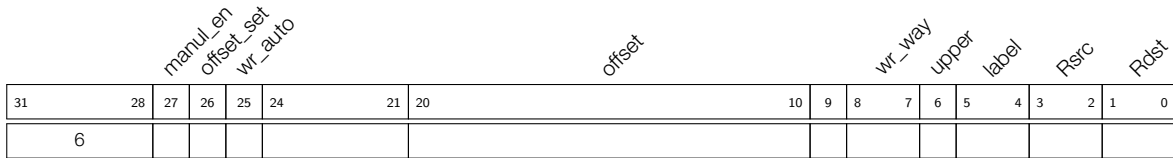

Figure 1-10. Instruction Type - ST
**Operand Description** - see Figure 1-10